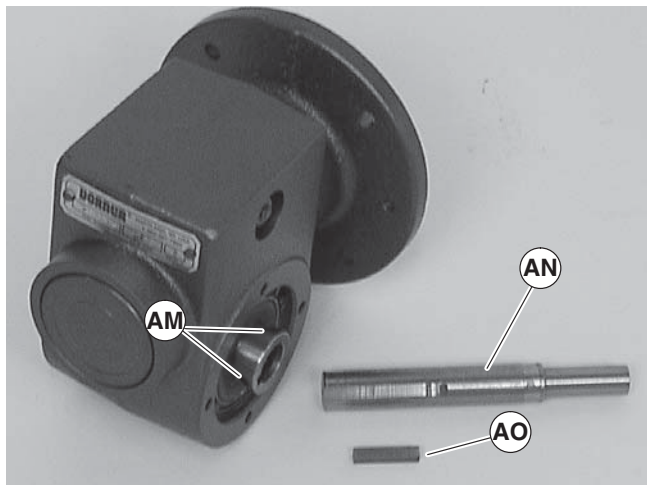

Figure 25
7. Remove two (2) screws (AJ) and detach output shaft cover (AK).
8. Remove gear reducer output shaft key (AL).
9. Loosen six (6) set screws (Figure 25, item AM). Remove drive shaft (AN) and key (AO).
11. Replace the original shaft components into new gear reducer (see Figure 25).